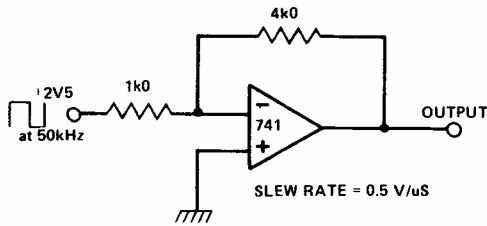

Fig.9. The difference in slew rate between a 741 and a TL081.
A. First try a 741, Fig.9. The required output swing is  $\pm 10$  V. The 741 can only move at  $0.5\text{V}/\mu\text{s}$  and so in the half period of the square wave, it can only move 5 V. If the 741 is replaced with a faster device, the TL081 ( $13\text{V}/\mu\text{s}$ ) then a 'square' wave is produced. The TL081 would take approximately  $1.5\text{ }\mu\text{s}$  to travel the 20 V distance, thus generating a